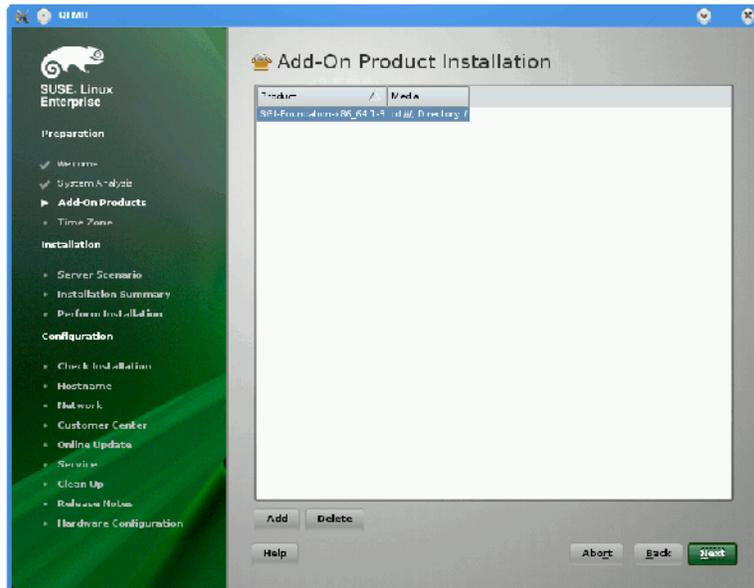

Figure 1-18 SLES11 SP2 Add-On Product Installation Screen Showing SGI Foundation
5. From the **Add-On Product Installation** screen, as shown in Figure 1-18 on page 26, click on **SGI-Foundation-x86_64 1-6 cd:///Directory** and click the **Add** button and then **Next** to proceed